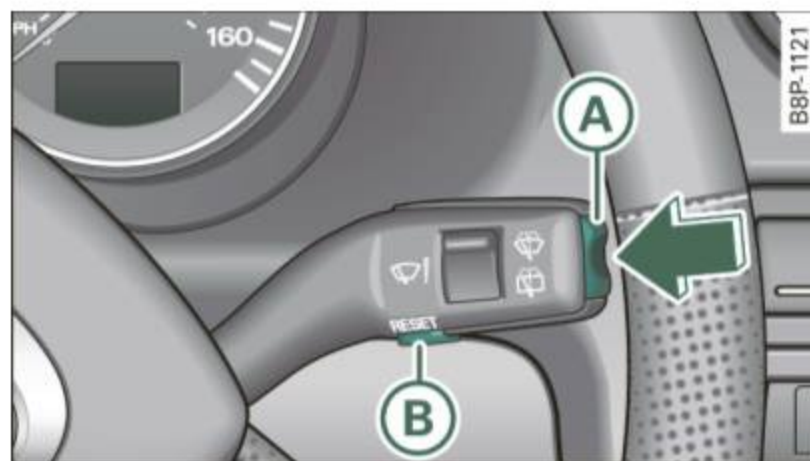

Fig. 23 Wiper arm:
- Push in the upper (lower) protrusion on the function selector switch **A** to scroll up (down) through the trip computer functions ⇒ fig. 23. The functions for the trip computer are displayed in succession on the respective memory levels. Keep the switch pushed until the desired display appears.
You can switch between the trip computer 1 and 2 by pressing the Reset button **B** ⇒ page 36, fig. 23.
The length of time that you have been driving since you last reset the memory appears in this display. If you want to keep track of your driving time from a given point in time, reset the memory at this point in time by pressing the Reset button ⇒ page 36, fig. 23 **B** for at least two seconds.
To turn off the driving time alarm, briefly press the function selector switch or the reset button ⇒ *page 36, fig. 23*
The average fuel economy in MPG (l/100 km) since you last cleared the memory appears in this display. You can use this display to adjust your driving technique to achieve a desired mileage. If you want to determine the fuel economy for a new time period, reset the memory using the reset button ⇒ *page 36, fig. 23*. After you have reset the display, a zero will appear for the first 100 feet (30 metres).
The average speed in mph. (km/h) since the last time the display was reset appears in the display. If you want to determine your average speed over a new time period, reset the memory using the reset button ⇒ *page 36, fig. 23*.